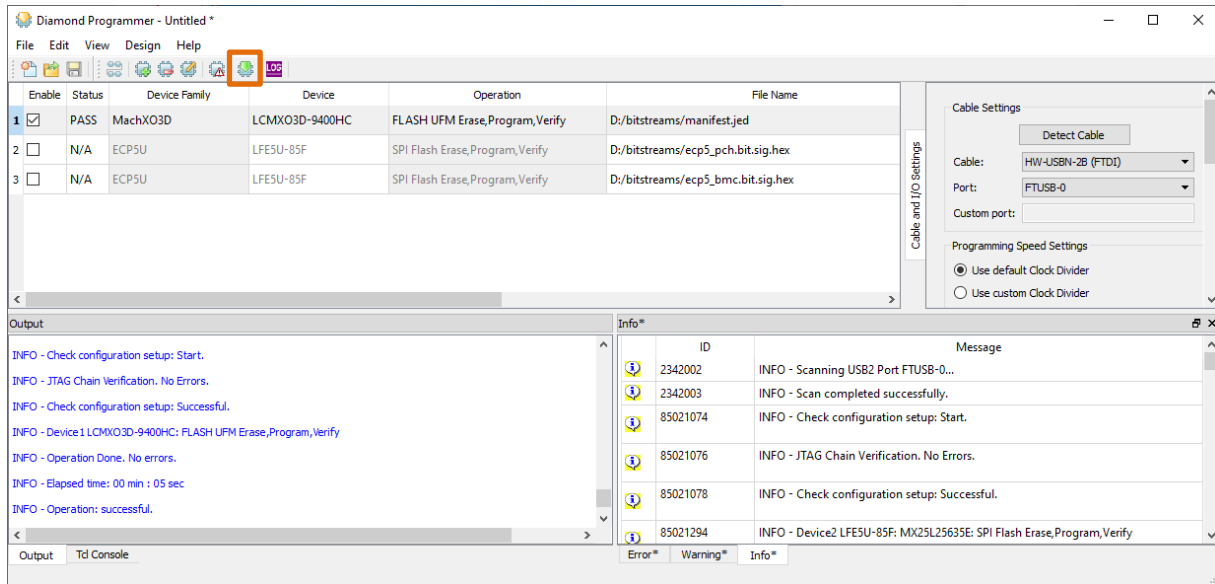

Figure 4.13. Program Operation
4. Program the MachXO3D UFM2 as shown in Figure 4.13.